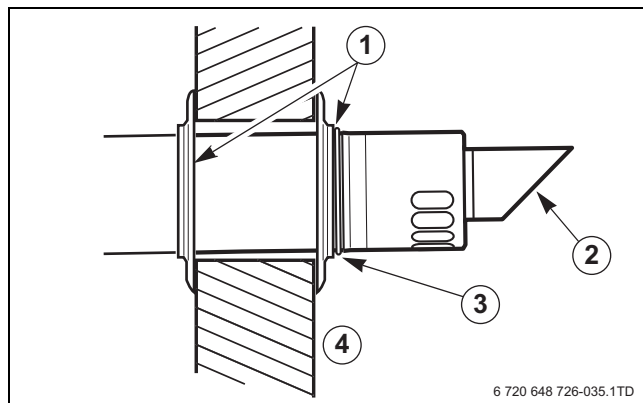

Fig. 35 Flue terminal position
- Mark off the lengths shown onto the pipe and cut to length. The cuts must be square and free from burrs. Terminal assembly outer (air) pipe - L-70 mm, inner (flue) pipe - L-50 mm. The measurement is made from the ridge at the terminal indicating the outer face of the wall. Refer to figure 35. Extension outer flue - L-70 mm, inner flue - L-50 mm. The measurement is from the formed end.
- Assemble flue system completely. Push the flue fully together. The slope of the terminal outlet must face downwards (→ fig. 35, item 1). The assembly will be made easier if a solvent free grease is lightly applied to the male end of the flue.